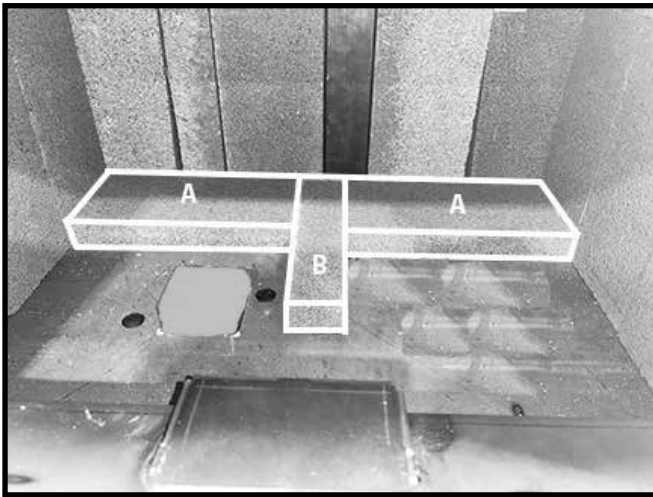

Figure 25: Back row floor A and B bricks.
6. On the firebox floor, place an "A" brick in each corner and insert one "B" brick as shown in Figure 25.